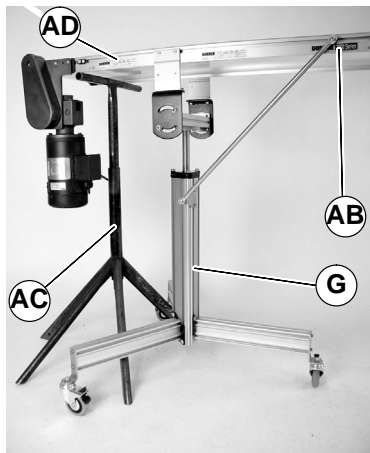

Figure 17
1. Place temporary support stand (AC of Figure 17) under conveyor (AD).
2. If installed, remove diagonal brace hardware (AB of Figure 17) from the conveyor. Allow brace to rest against the trileg post (G).